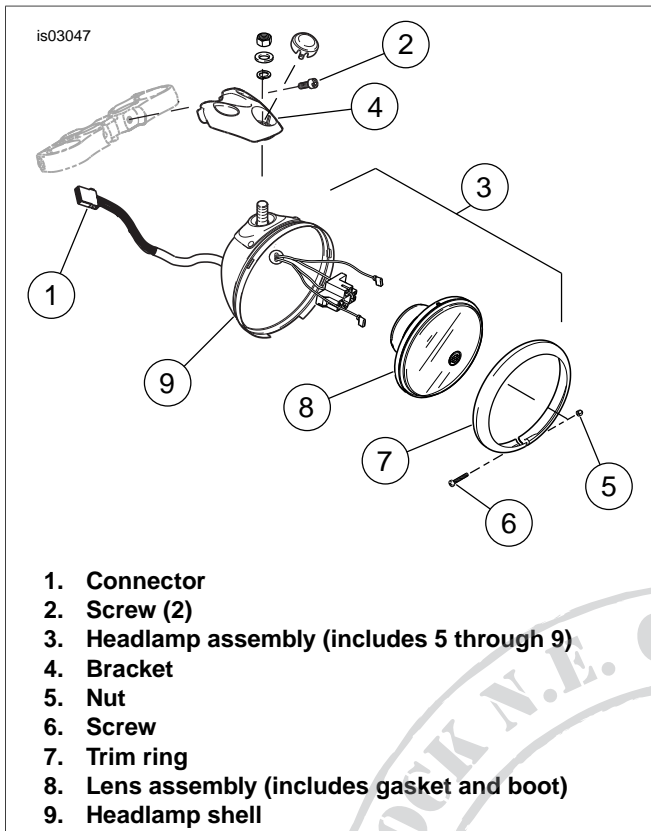

Figure 2. VRSCB Headlamp Assembly
3. See Figure 2. Disconnect headlamp connector (1) from vehicle wire harness.
4. Remove two screws (2), headlamp assembly (3), and headlamp mounting bracket (4) from upper bracket.
5. Remove nut (5), screw (6), and trim ring (7) from headlamp.
6. Remove lens assembly (8) from headlamp shell (9). Save lens assembly for Billet Headlamp Shell Kit 67704-03 installation.